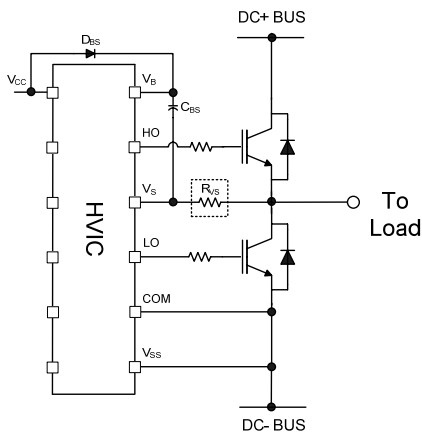

Figure 10:  $V_S$  resistor
**Routing and Placement:** Power stage PCB parasitic elements can contribute to large negative voltage transients as the switch node; it is recommended to limit the phase voltage negative transients. In order to avoid such conditions, it is recommended to 1) minimize the high-side emitter to low-side collector distance, and 2) minimize the low-side emitter to negative bus rail stray inductance. However, where negative  $V_S$  spikes remain excessive, further steps may be taken to reduce the spike. This includes placing a resistor ( $5\ \Omega$  or less) between the  $V_S$  pin and the switch node (see Figure 10), and in some cases using a clamping diode between  $V_{SS}$  and  $V_S$  (see Figure 11). See DT04-4 at [www.irf.com](http://www.irf.com) for more detailed information.